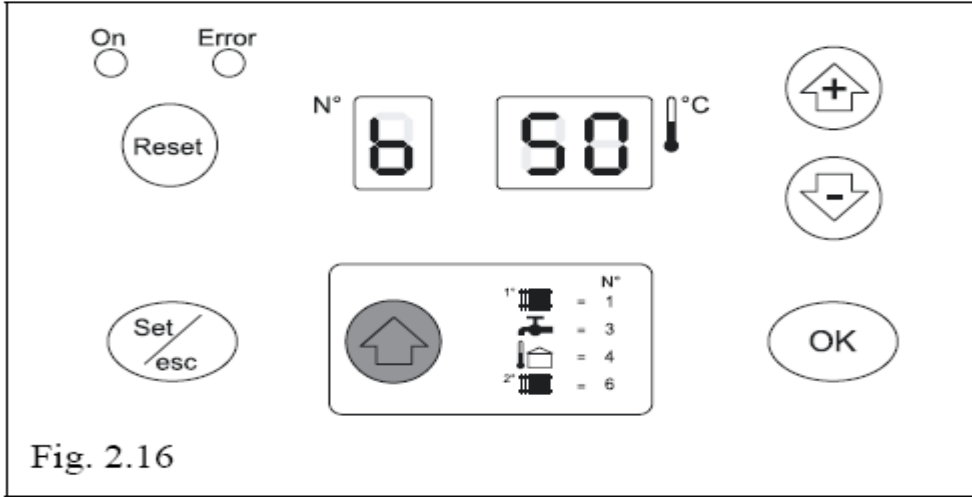

Fig. 2.16
- Pressing to the key, access to display 6 (press 4 times), then low flow water system (it can be the floor heating zone) is accessed. (Figure 2.16)